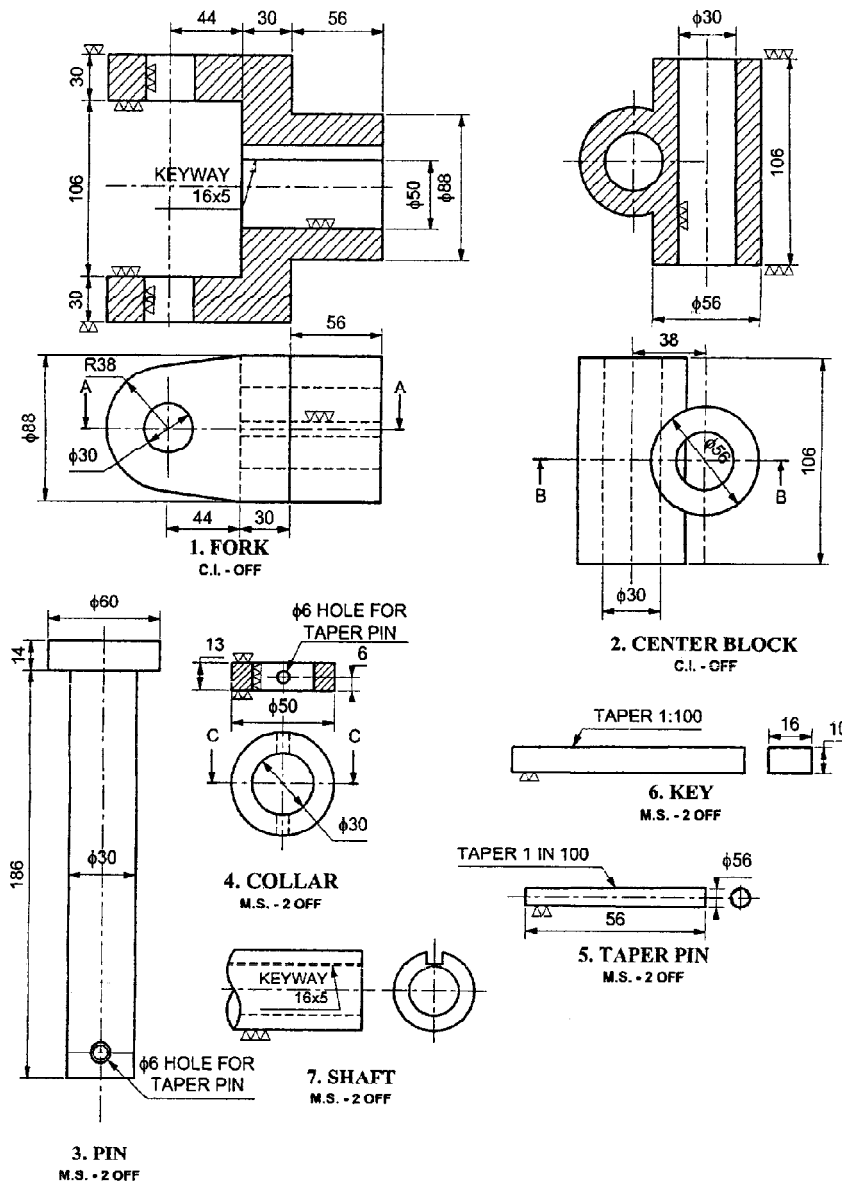

Fig. No. 2 (Universal Coupling details)
- a) Figure No. 2 shows the details of universal coupling. Draw the following views of assembly.